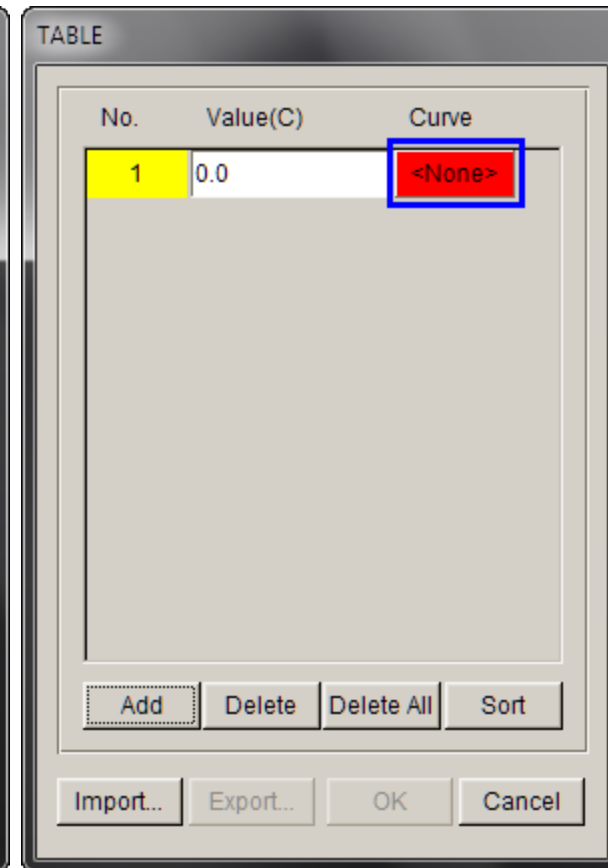

Figure 21
3. Click **None** in Figure 21.